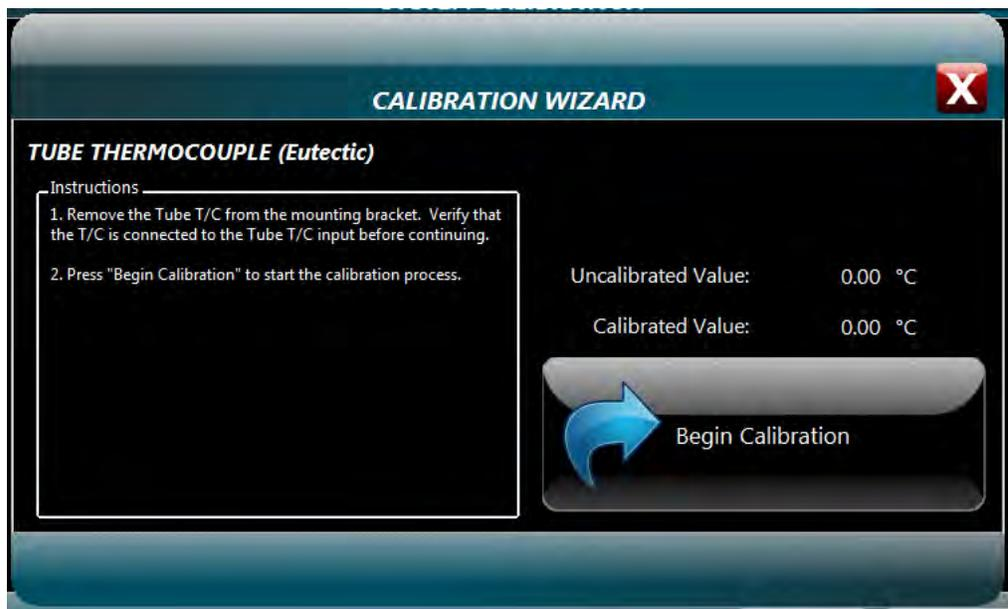

Figure 5-5 – Eutectic Calibration Wizard display with Begin button
1. Select the 'Begin Calibration' button on the Calibration Wizard display to start the process (figure 5-5).